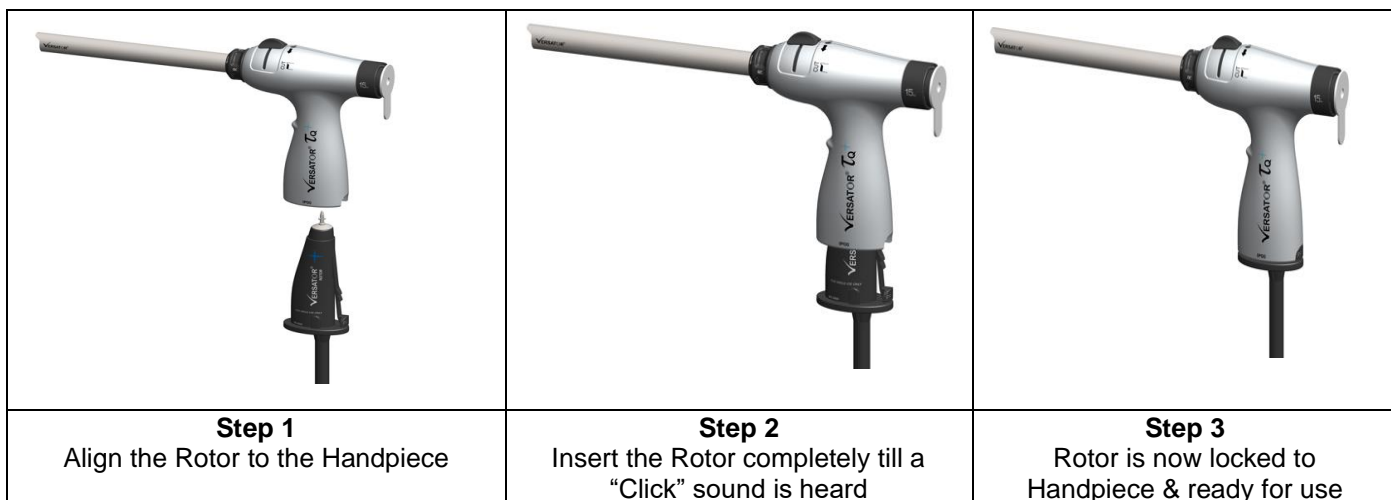

Figure 2: Insertion of Rotor into the hand-piece
- 5.1.2.5 Attach the VERSATOR® Handpiece to the VERSATOR® Rotor Cable-Sterile by inserting it into the VERSATOR® Handpiece as shown in Figure: 2. Check the alignment of the VERSATOR® Rotor Cable-Sterile with respect to the VERSATOR® Handpiece while insertion.